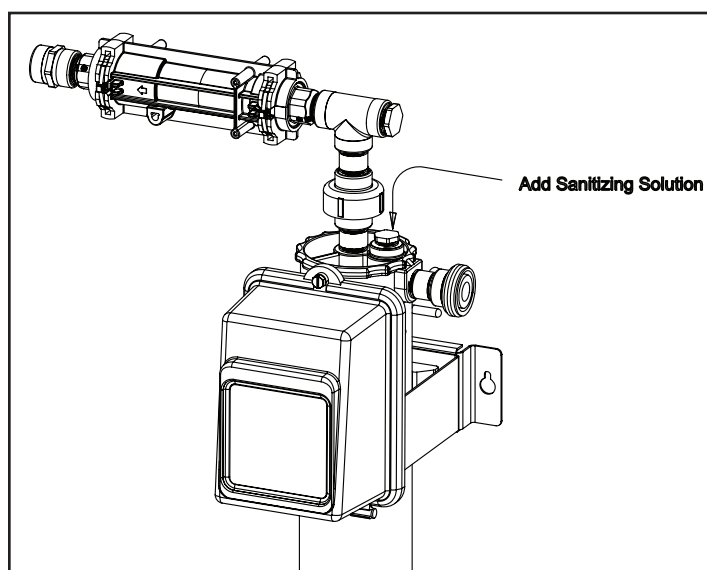

Figure 6: Adding Sanitizing Solution
7. Through the sanitizing port fill the FreshPoint™ housing with a solution containing chlorine at 100 mg/l (1-1/2 teaspoons of unscented bleach in 1 gallon of clean water). See figure 6.